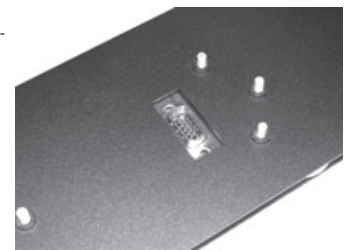

Figure 8. Connect the DataPort cable to the DDI-12 through the rectangular opening in the bracket.
4. Through the rectangular opening in the DPX-4 bracket (Figure 8), connect a DataPort cable to the DDI-12. Attach the other end to the appropriate DataPort of the amplifier.